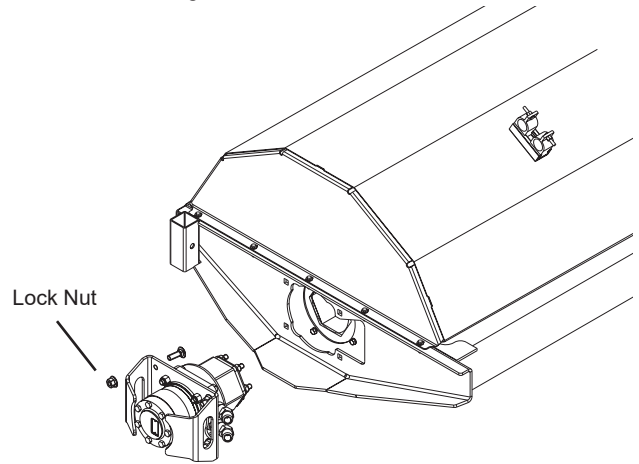

Figure 8
2. Remove (4) 1/2-13 lock nuts from brush frame. Retain mounting hardware. See Figure 8.
3. Slide motor out of mating hub. Let motor hang on hoses. Retain mounting hardware. See Figure 8.
3. Install motor on each side of the brush frame using original hardware. See Figure 8.